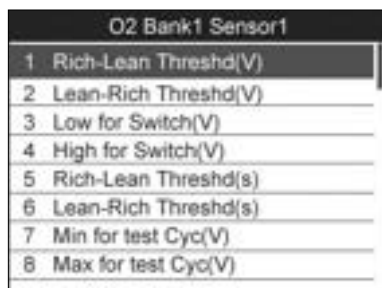

Figure 5.25
- 4) View test results of selected O2 sensor (Figure 5.25).